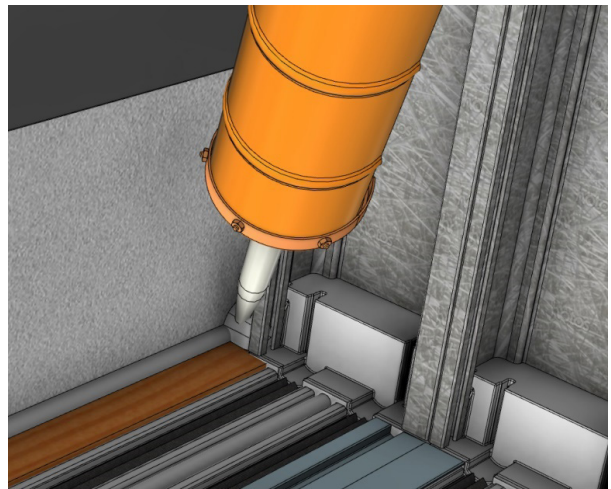

Fig PKT 11
- Be sure to fill the entire gap between the exterior pocket wall and the jamb (Fig. PKT 11).